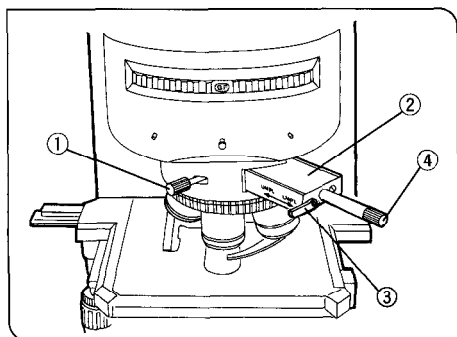

Fig. 18
(Fig. 18)
1. Rotate the prism control knob ④ of the DIC prism slider to select the interference color of the background, and to achieve the maximum contrast depending on the specimen under observation, as outlined below. (Fig. 18)